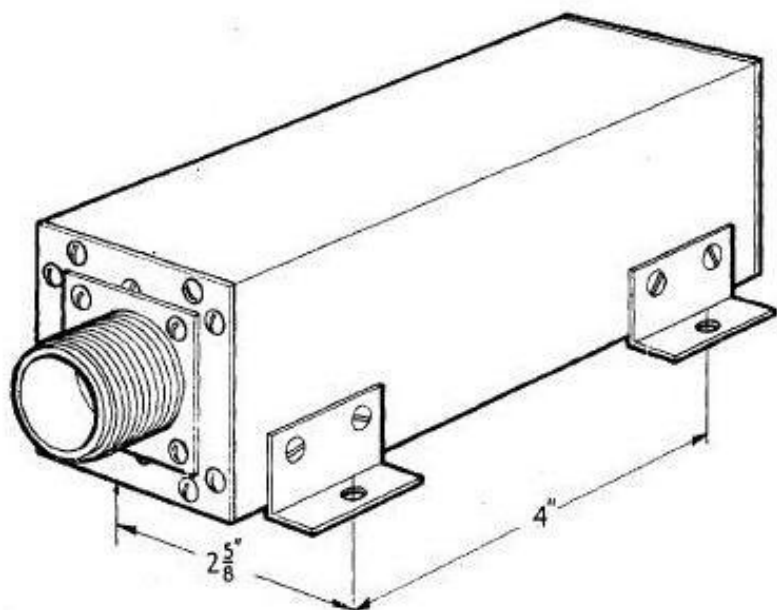

Fig. 1. Control box E.31082
1. The control box ◀E.31082 ▶ (fig. 1) forms part of the Goodyear Anti-Skid system, the function of which is to prevent the skidding of aircraft wheels during a landing. The control box is used in conjunction with two generators mounted in brackets attached to the aircraft undercarriage and driven by the aircraft wheels, and two solenoid valves located in the hydraulic supply lines to the aircraft brakes. For information on the generators and flywheel assembly,